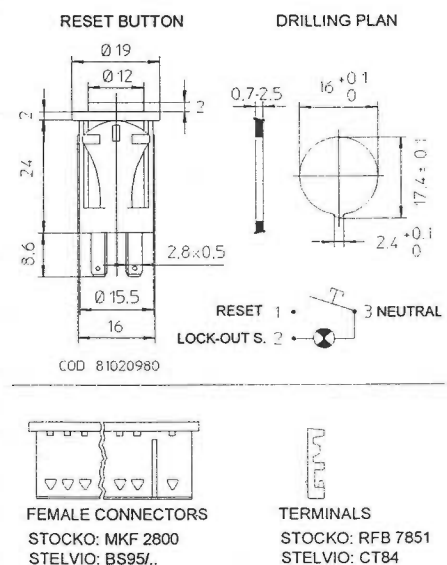

Fig.2
(1): Standard connectors are Stocko-Stelvio models, see Fig.2.
The control units can be supplied complete with connectors and light reset push-button (see Fig.2 and Fig.3); in a case do not fit terminals and female connectors of different types.